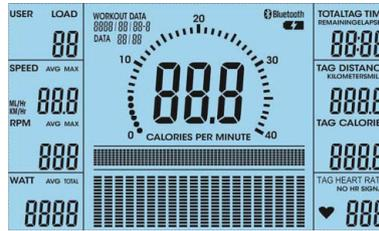

FIGURE 1
(1) Connect the monitor to the power and press RESET for two seconds. The LCD screen displays all segments for two seconds and a signal sounds (see fig. 1).